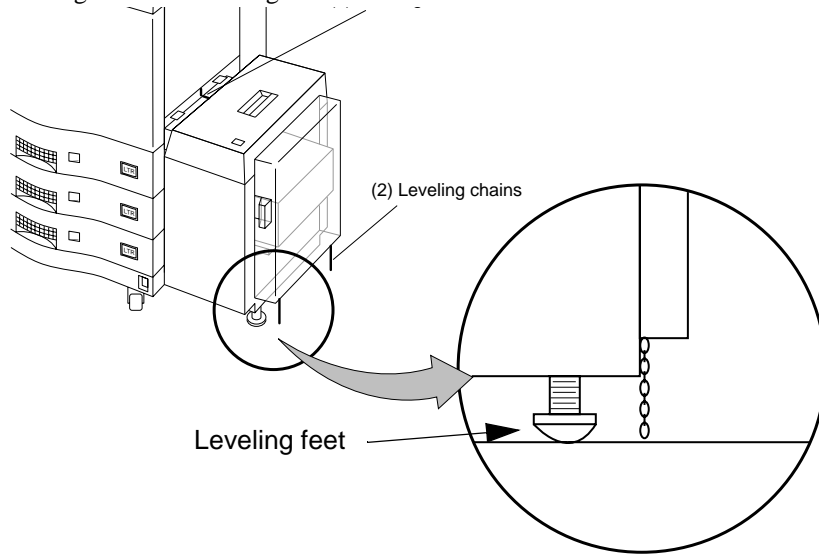

Figure 4-9 **Leveling the HCI**
2. Adjust the leveling feet on the HCI support stand so that the two leveling chains are just touching the floor. See Figure 4-9.